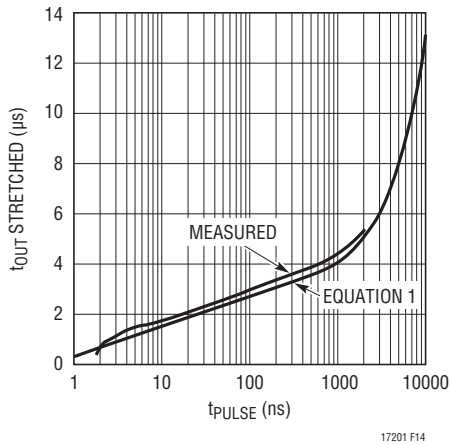

Figure 14. Log Pulse Stretcher Output Pulse vs Input Pulse
The circuit topology itself is extremely fast, limited theoretically only by the speed of the diode, the capture time constant τ1 and the pulse source impedance. Figure 14 shows results achieved with the implementation shown, compared to a plot of Equation (1). The low end is limited by the delivery time of the upstream comparators. As the input pulse width is increased, the log function is constrained by the asymptotic RC response but, rather than becoming clamped, becomes time linear. Thus, for very long input pulses the third term of Equation (1) dominates and the circuit becomes a 3μs pulse stretcher.
in the two output pulse widths is the per-octave response of your circuit (see Equation (3)). Shorter cable length differences can be used to get a plot of circuit performance down to 1.5ns (if any), which can then later be used as a lookup reference when you have moved from quantifying the circuit to using the circuit. (Note there is a slight aberration in performance below 10ns. See Figure 14.) As a final check, feed the circuit with identical cable lengths and check that it is not producing any output pulses.
This circuit has an ultimate sensitivity of better than 14mV with 5ns to 10ns input pulses. It can even detect an avalanche generated test pulse of just 1ns duration with sensitivity better than 100mV.6 It can detect short events better than the coincidence detector of Figure 14 because the one-shot is configured to catch just 100mV of upward movement from C1's  $V_{OL}$ , whereas the coincidence detector's 3ns specification is based on a full, legitimate logic high, without the help of a regenerative one-shot.